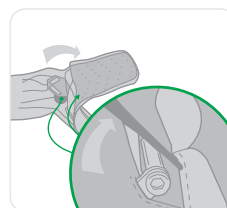

Figure 9
- Unzip the back panel of the backpack and inspect the Attachment locking bolt for signs of damage, distortion, corrosion or cracking. Ensure that the bolt is secure (Figure 9). If damage is apparent or the bolt insecure the Latchways PRD descender device shall be removed from service and advise sought from MSA or authorised agent.